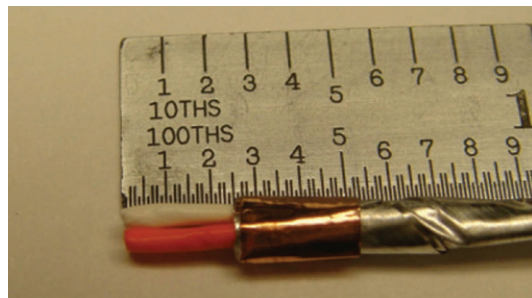

Figure 31: Removing the foil edge
7. With cutters, cut the foil edge where it meets the tape. Then tear the foil along the tape edge (Figure 31).